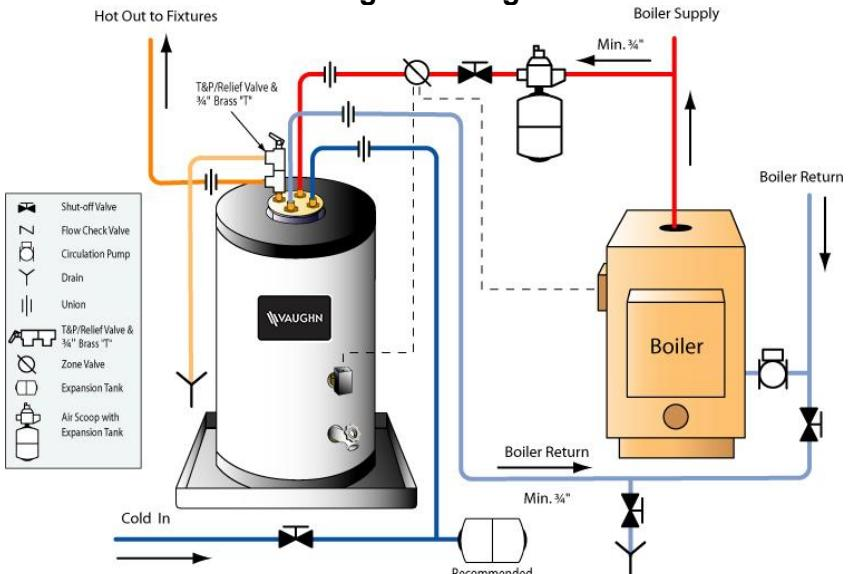
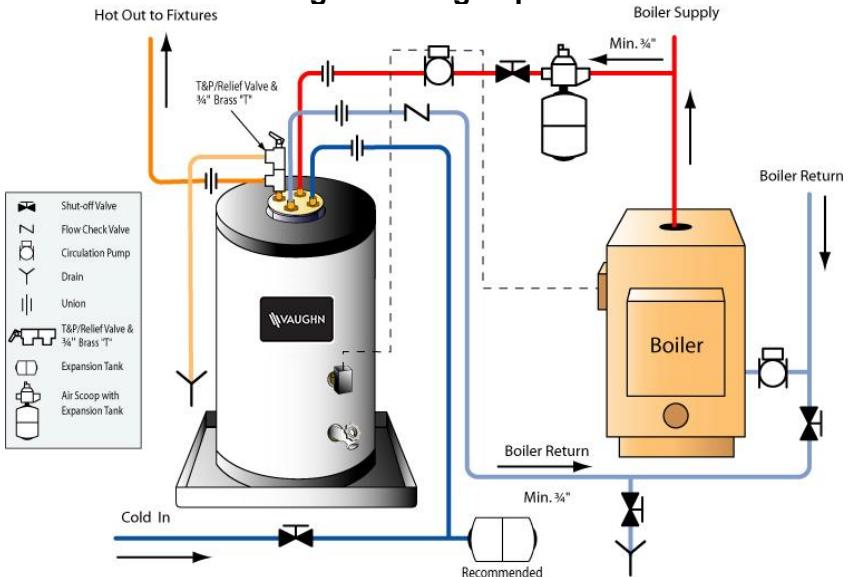
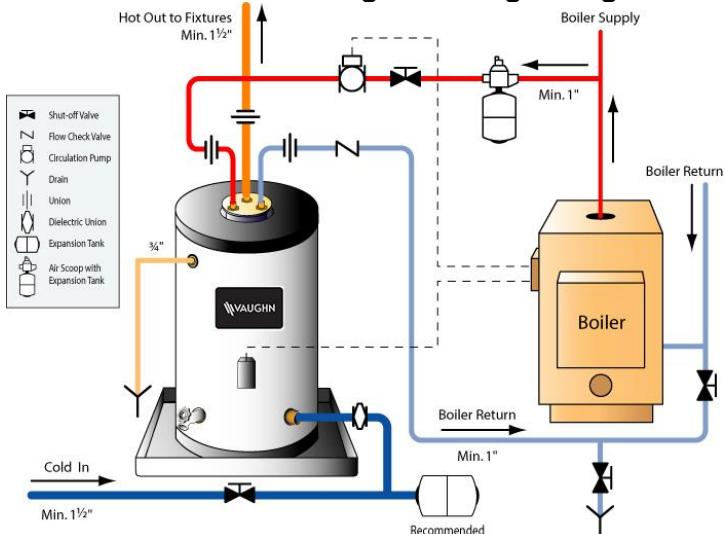

FIGURE 2
FIGURE 3
FIGURE 4
- Temperature and pressure relief valve installed as shown in FIGURE 1 and FIGURE 2 on page 20. (Except model S70DTPP). For model S70DTPP, see FIGURE 3 and FIGURE 4 on page 21.
- See FIGURE 1 and FIGURE 2 on page 20. (Except model S70DTPP). For model S70DTPP, see FIGURE 3 and FIGURE 4 on page 21.